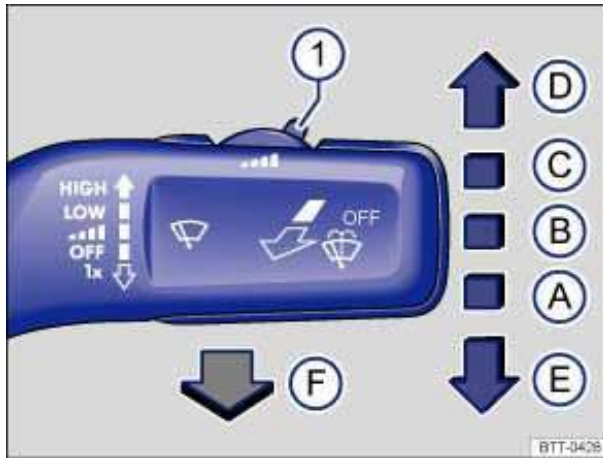

Fig. 79 Operating the front windshield wiper.
- Press the windshield wiper lever down briefly ⇒ fig. 79 (E) when the ignition is off.
Carefully fold the wiper arms back onto the windshield before driving! Switch the ignition on and press the windshield wiper lever down briefly ⇒ fig. 79 (E). The wiper arms move back to their original position.